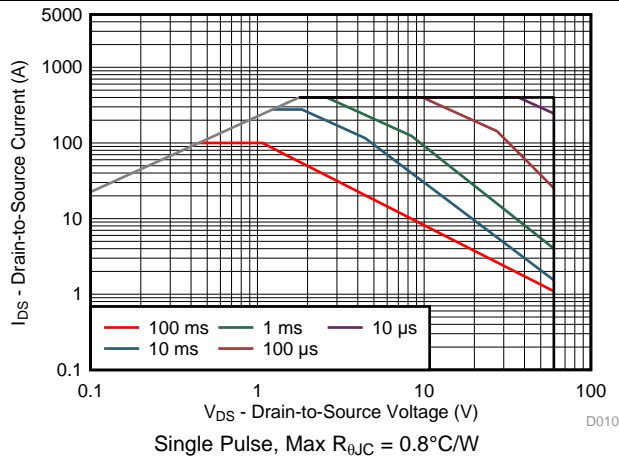

Figure 10. Maximum Safe Operating Area
• Replotted <a href="#">Figure 10</a> using 175°C data. ....	6